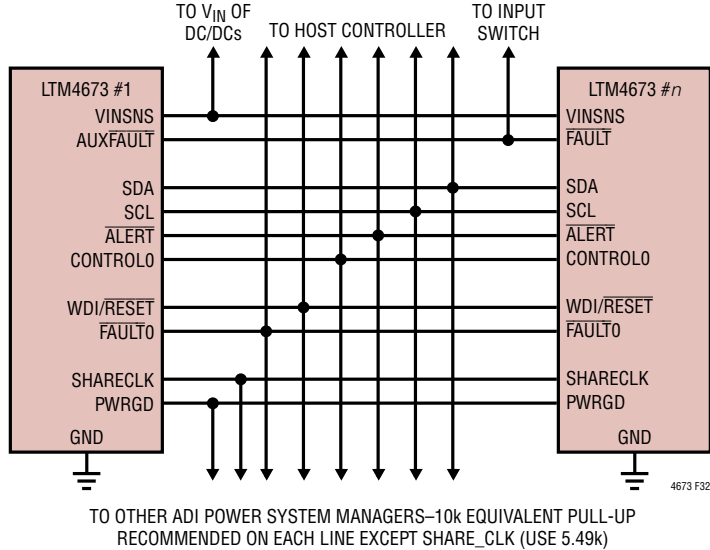
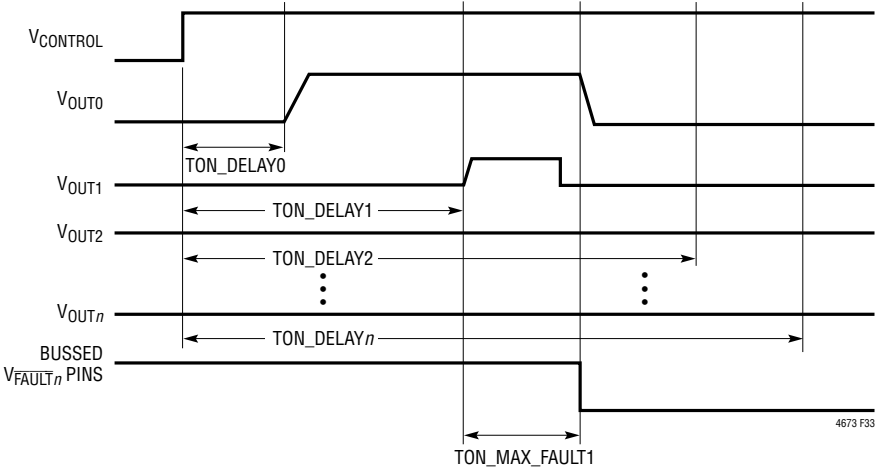

Figure 32. Typical Connections Between Multiple Analog Devices Power System Managers
Figure 33. Aborted On-Sequence Due to Channel 1 Short
Figure 32 shows how to interconnect the pins in a typical multi-LTM4673 array.
- The  $\overline{\text{FAULT}}$  lines can be connected together to create fault dependencies. Figure 32 shows a configuration where a fault on any  $\overline{\text{FAULT}}$  will pull all others low. This is useful for arrays where it is desired to abort a startup sequence in the event any channel does not come up (see Figure 33).
- PWRGD reflects the status of the outputs that are mapped to it by the MFR\_PWRGD\_EN command. Figure 32 shows all the PWRGD pins connected together, but any combination may be used.